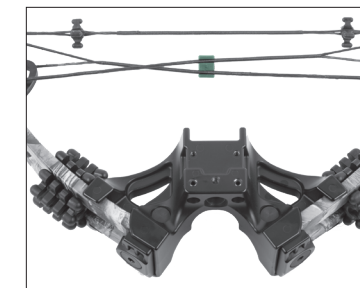

FIGURE 1
- 1** First, attach the cable slide (Part C) to the cables on the left side of the riser by clipping the two cables into the two grooves in the cable slide. The wider end of the cable slide should face towards the back of the crossbow, as pictured in Figure 1.